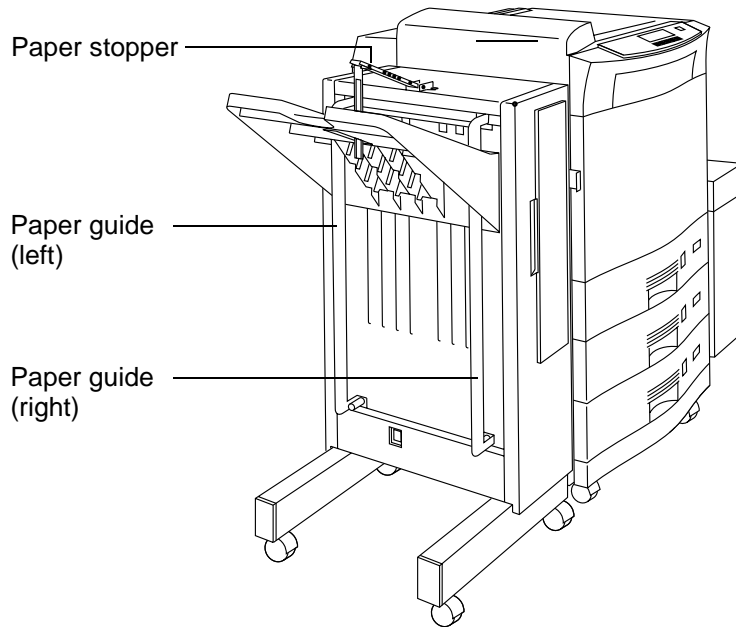

Figure 23 Paper stopper and paper guides
- Step 1 Locate the paper stopper on top of the HCO and position it as shown in Figure 23.